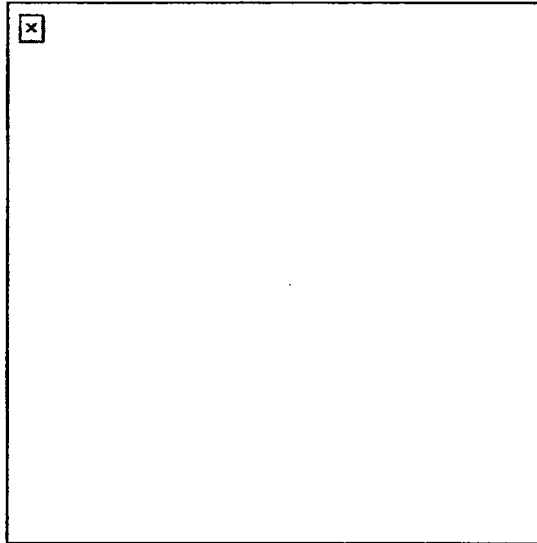

Figure 37. Use a single signal flag.
- c. Flags (Figures 37 through 43) are used to mark vehicle positions (for example, a quartermaster uses colored flags in an assembly area to mark positions), identify disabled vehicles, warn friendly elements of an advancing enemy (for example, an observation post uses a flag to signal a platoon to move to its fighting position), and control movement (flags serve as an extension of arm-and-hand signals when distances between vehicles become too great).